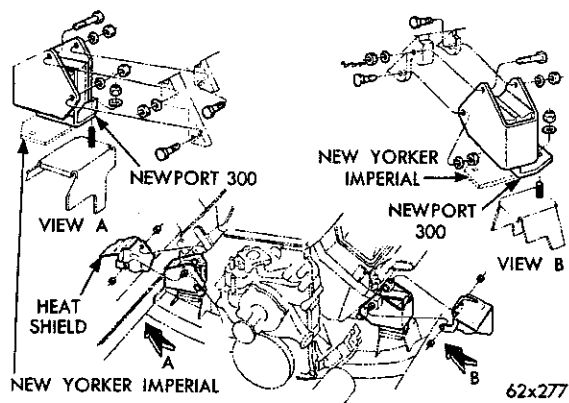

Fig. 51—Front Engine Mounts
(1) Install the mounts on the engine and tighten the nuts to 45 foot-pounds torque, as shown in Figure 51.
(2) Slide the heat shields over the engine mount bolts and install the second nuts. Tighten the nuts to 45 foot-pounds torque.